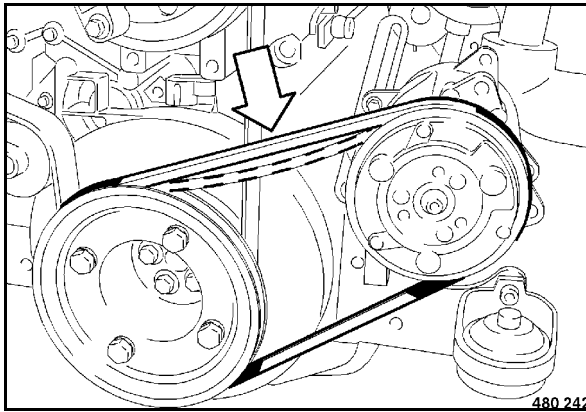

Fig. 135
- Inspect the entire circumference of the V-belt (Fig. 135) visually for damage and cracks. Replace damaged or cracked V-belts.